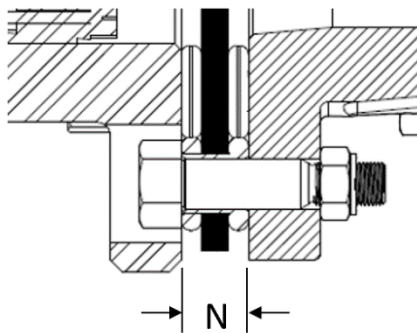

Figure 7: N Dimension
- f) The minimum and maximum values for the dimension N shown in Figure 7 are given in Table 3. These dimensions are recommended for initial installation. The N Dimension can be measured to confirm the disc packs are in their recommended axial position. Measure the N dimension at the four bolt locations around each disc pack without rotating the coupling. Each measurement should be within the specified range. Differences in N Dimension values can indicate angular misalignment.